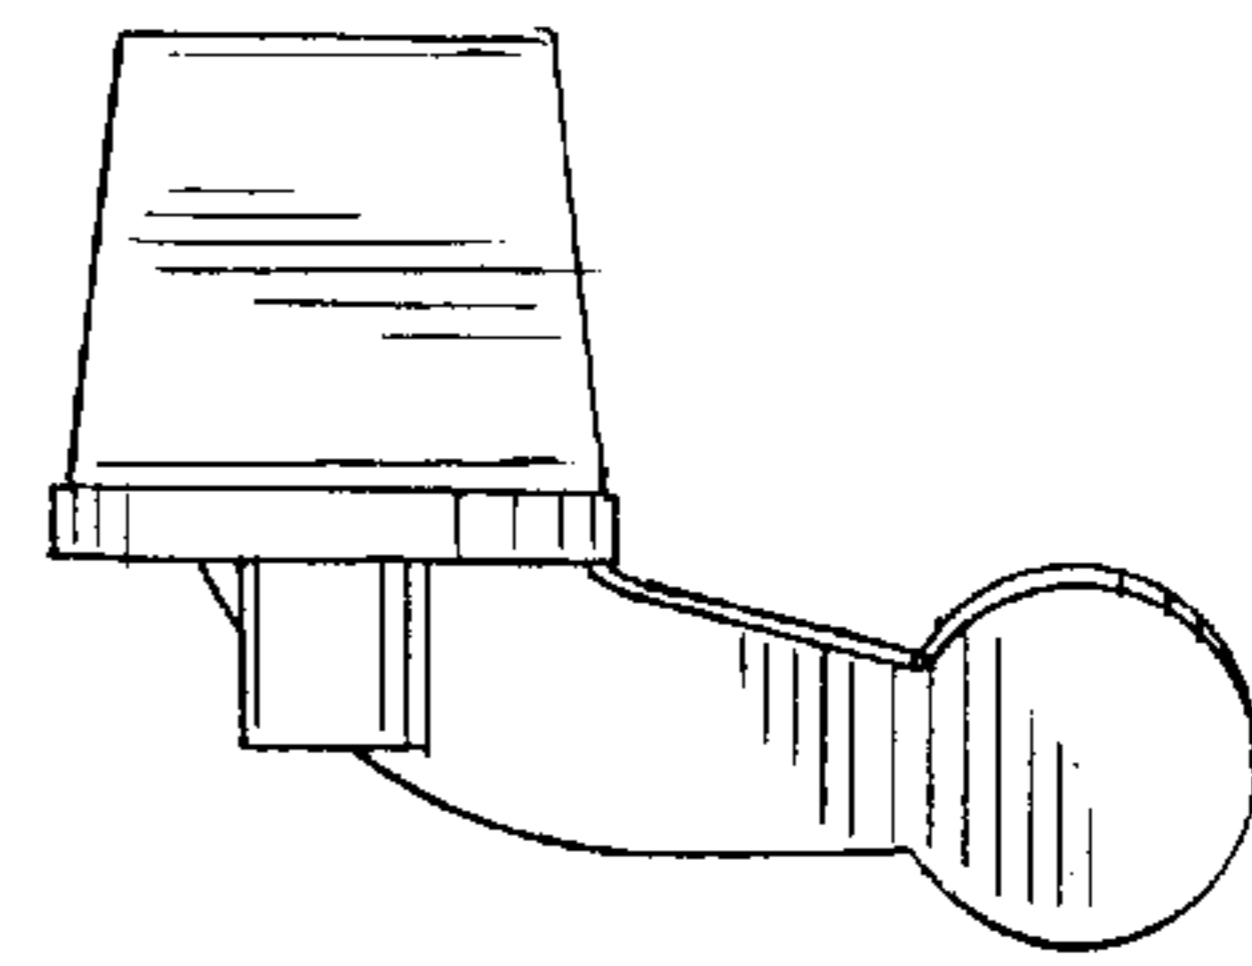

FIG. 3
- FIG. 3 is a left hand end view thereof;